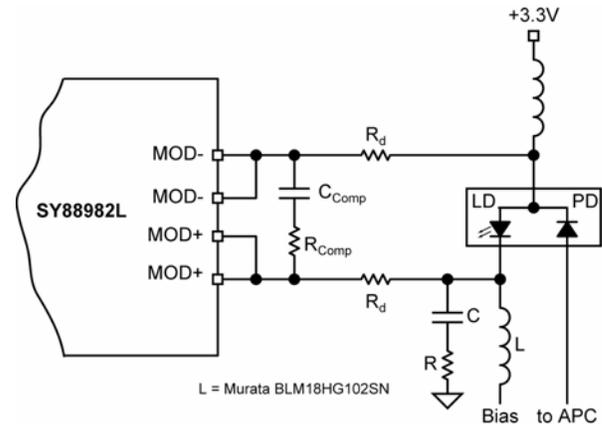

Figure 3. Laser DC-Coupled
The typical applications diagram on the first page shows how to connect the driver to the laser, single ended. To improve transition time and laser response, the laser can be driven differentially as shown in Figures 3 and 4. Driving the laser differentially will also minimize the crosstalk with the rest of the circuitry on the board, especially the receiver.
$Ldi/dt$  is the voltage drop due to the laser parasitic inductance during  $I_{MOD}$  transitions. Assuming  $L = 1nH$ ,  $t_f = t_r = 80ps$  (measured between 20% and 80% of  $I_{MOD}$ ), and  $I_{MOD} = 70mA$  (42mA from 20% to 80%), then  $Ldi/dt$  will be equal to 525mV. This number can be minimized by making the laser leads as short as possible and using an RC compensation network between the cathode of the laser and ground or across the laser driver outputs as shown in Figure 3.
signal from the laser. In the circuit shown in Figure 3, the RC compensation network across the driver outputs (MOD+ and MOD-) allows the user  $R_d = 10\Omega$ . The optical eye diagrams at data rates of 155Mbps/622Mbps/1.25Gbps/2.5Gbps, shown in “Functional Characteristics” section, are all obtained with the same circuit using  $R_d = 10\Omega$ ,  $R_{Comp} = 100\Omega$ , and  $C_{Comp} = 3pF$ . The compensation network may change from one board to another and from one type of laser to another. An additional compensation network (RC) can be added at the laser cathode for further compensation and eye smoothing.